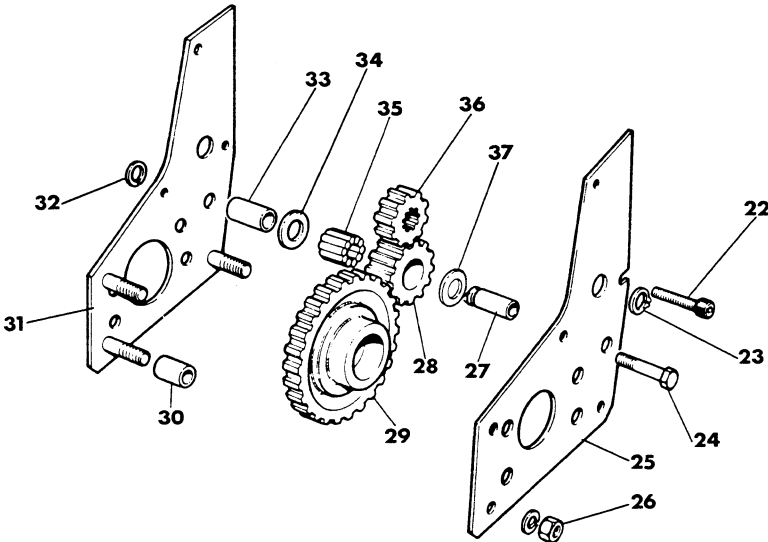

FIG. 5
2. Fig. 5. Remove the circlip (23) securing the pump driven gear (36) to the pump drive shaft.
3. Remove the two special bolts (24), spacers (33) and the Allen screw (22) securing the pump drive assembly to the pump.
4. Slide the pump out of the plated drive unit, removing the driven gear (36).
2. Fig. 5. Remove the three nuts (26) and spring washers, then remove the plate (25), and the spacers (30).
3. Lift out the drive gear (29), then remove the thrust washer (37) idler gear (28) complete with needle rollers (35) and second thrust washer (34).
4. Push the idler shaft (27) complete with its circlip (32) out of the side plate (31).